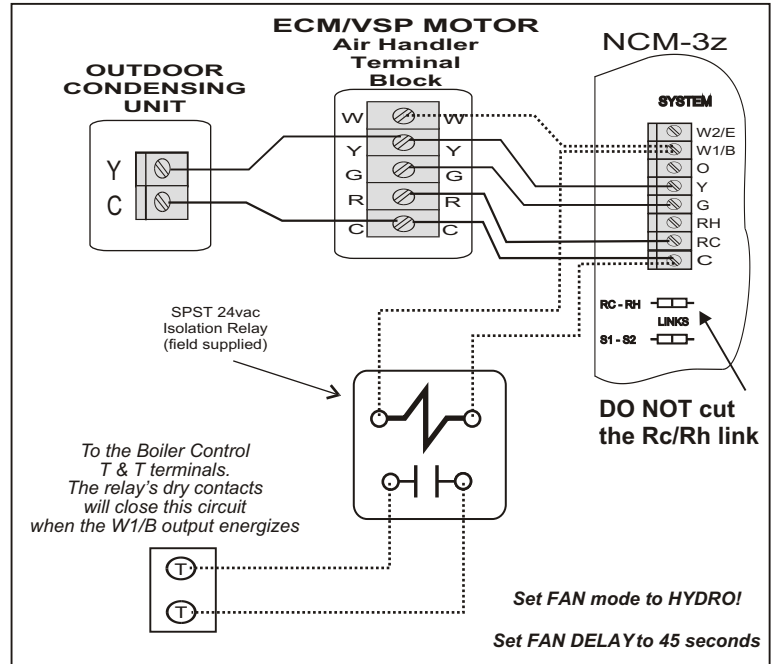

Figure 16
* Figure 16 is for new tech VSP/ECM motor types. The isolation relay is required (cannot use the Rc/Rh isolation) because the VSP motor must detect the W signal from the Air Handler’s 24v power, not the Boiler’s 24v power.
* If you’re unsure of the motor type in your Air Handler, use an isolation relay! (Figure 16 or 18) depending on HC or HP application.